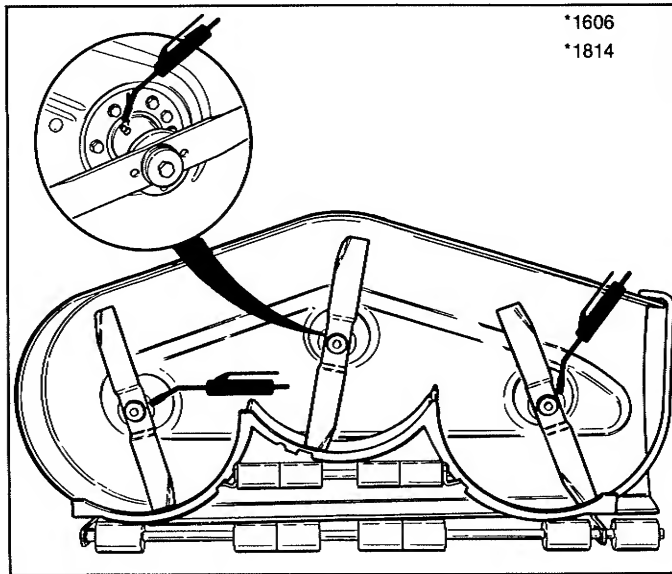

Figure 8A. Mower Arbor
7. Lubricate the mower arbors as shown in figure 8A.